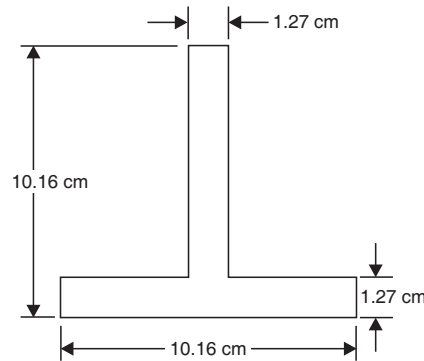

Fig. 5.34
3. Determine the moment of inertia of a T-section (as shown in Fig. 5.34)  $10.16 \times 10.16 \times 1.27 \text{ cm}$  about an axis passing through the centre of the section and perpendicular to the stem or vertical leg. [Ans.  $I_{xx} = 231.4 \text{ cm}^4$ ]